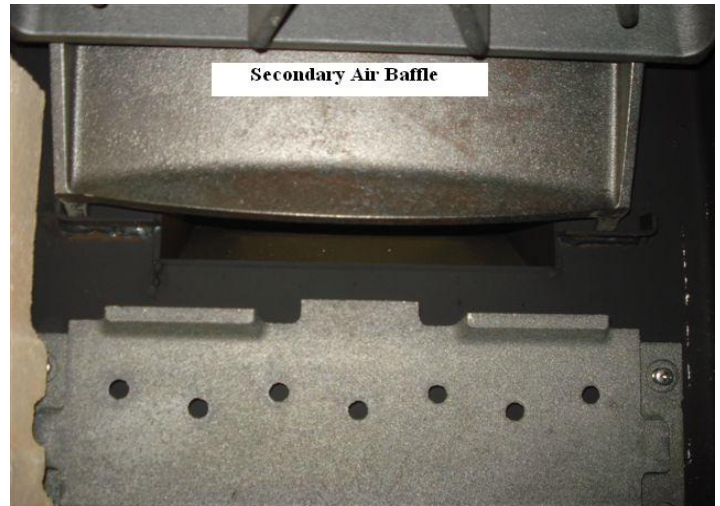

Figure 4
6. Lift the secondary air baffle to remove (see Figure 4) & access the flue outlet.